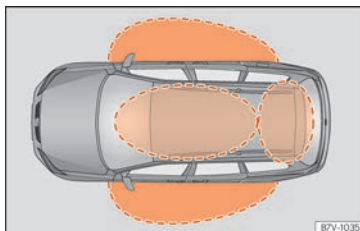
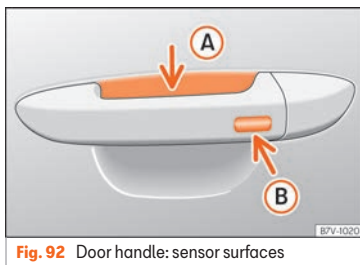

Fig. 91 Keyless Access: proximity zones.
Fig. 92 Door handle: sensor surfaces
» Fig. 92
Keyless Access is a key-free locking and ignition system to unlock and lock the vehicle without actively using its key. To do this, all that is required is to have a valid vehicle key in the detection area where you are attempting to access the vehicle » **Fig. 91** and to touch one of the sensor surfaces on the door handles » **Fig. 92** » .
If a valid key is located in the proximity of the car » **Fig. 91**, the Keyless Access lock and ignition system gives the key entry as soon as one of the sensor surfaces on the door
- Grip the door handle. When you do this, you touch the sensor surface »» Fig. 92 A (arrow) on the handle and the vehicle unlocks.
- Touch (once) the sensor surface »» Fig. 92 B (arrow) on the door handle. The door that is used must be closed.
- Touch (once) the sensor surface »» Fig. 92 B (arrow) on the door handle. The vehicle locks with the “Safe” security system »» page 104. The door that is used must be closed.
- Touch (twice) the sensor surface »» Fig. 92 B (arrow) on the door handle to lock the vehicle without the “Safe” security system »» page 104.
When the vehicle is locked, the rear lid automatically unlocks on opening if there is a valid vehicle key in the proximity »» Fig. 91.
- Push the central locking button  on the remote control and touch the locking sensor surface of the driver door handle » » Fig. 92  within the following 5 seconds. Do not grasp the door handle; otherwise the vehicle will not unlock. Deactivation is also possible if the vehicle is locked through the driver's door lock.
To close all the electric windows and the panoramic sliding sunroof using the **comfort function**, keep a finger for a few seconds on the locking sensor surface » » Fig. 92  (arrow) of the door handle until the windows and roof have closed.
The sensor surfaces on the door handles could engage if hit with a water jet or high pressure steam if there is a valid vehicle key in the proximity. If at least one of the electric windows is open and the sensor surface » » Fig. 92  (arrow) on one of the handles is activated continuously, all windows will close.